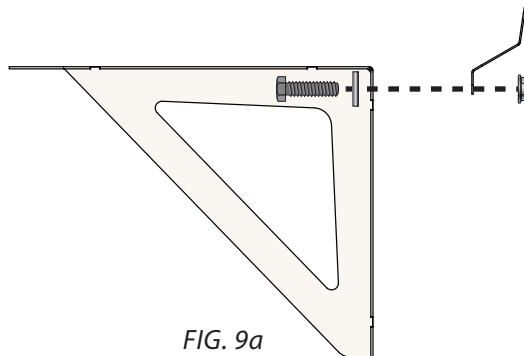
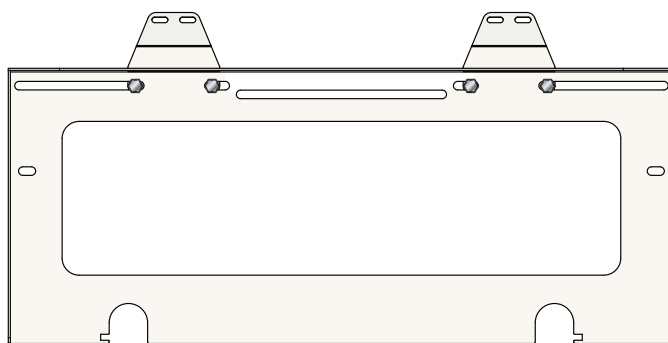

FIG. 9a
FIG. 9b
Attach each Dual Filter Adapter Bracket (O7) to the Dual Filter Plenum Plate (N) with two Hex Head Bolts (O7A), two Flat Washers (O7B) and two Whiz-Lock Nuts (O7C) as shown in [FIG. 9A] and [FIG. 9B].